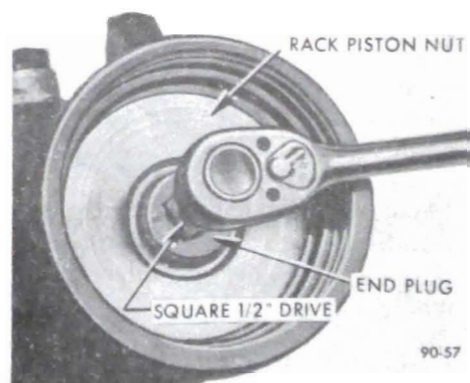

Figure 90-68 Removing Rack-Piston Nut End Plug
6. Remove rack-piston nut end plug with a 1/2" square drive. See Figure 90-68